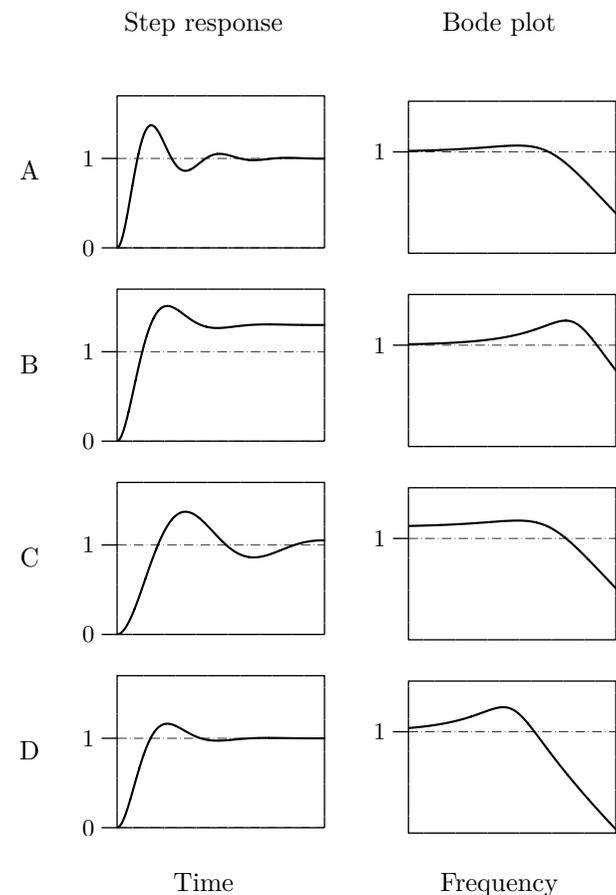

Figure 4.4a. All comparable diagrams have equal scaling.
- 4.4 Figure 4.4a shows the step responses (when the input is a unit step) and Bode gain plots of four different systems, in no particular order. Identify the pair of plots that belongs to each system. That is, for each step response, find the corresponding Bode gain plot (amplitude curve). Motivate your answer by pointing out a set of unique features for each system.